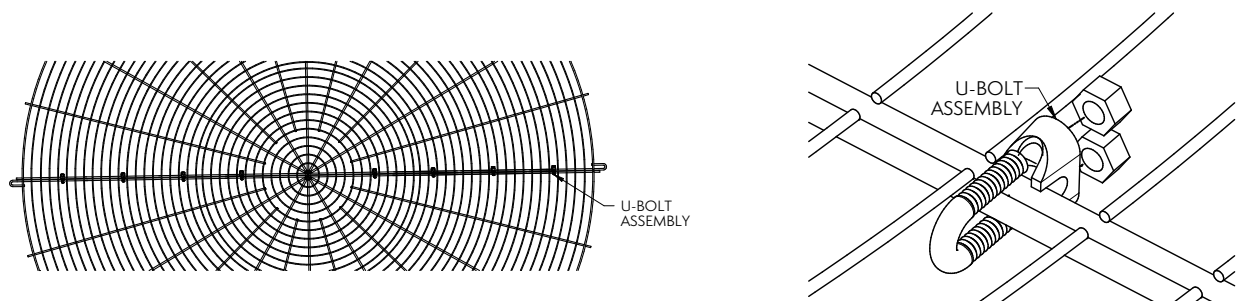

Figure 25 – U-Bolt Assembly Spacing & Arrangement
3. Join the two screen halves with U-bolts, as shown in **Figure 25**.